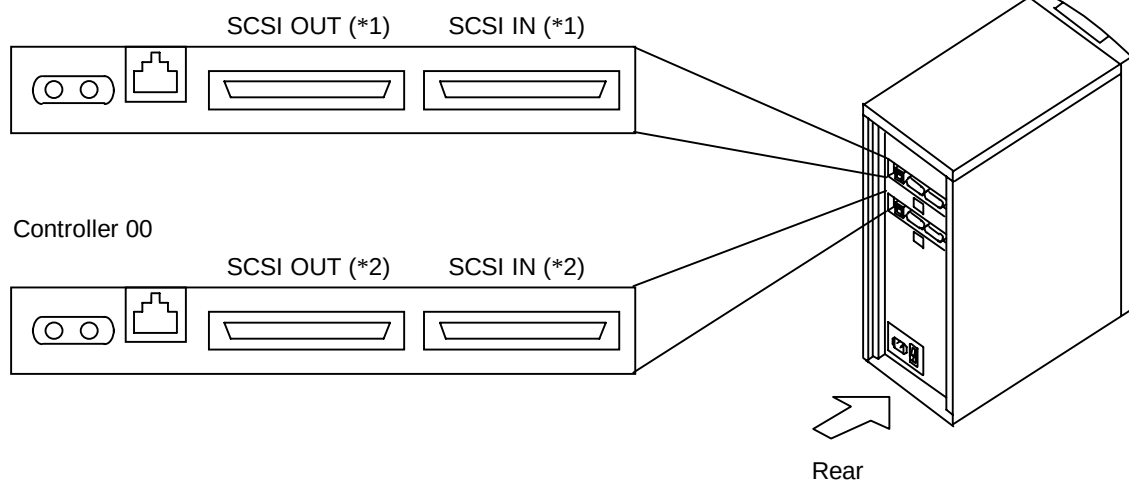

Figure 9.1 SCSI Connector Layout
9. Replacing I/F ADAPTER ASSY (See Figure 9.1, 9.2, 9.3 and Table 9.1.)